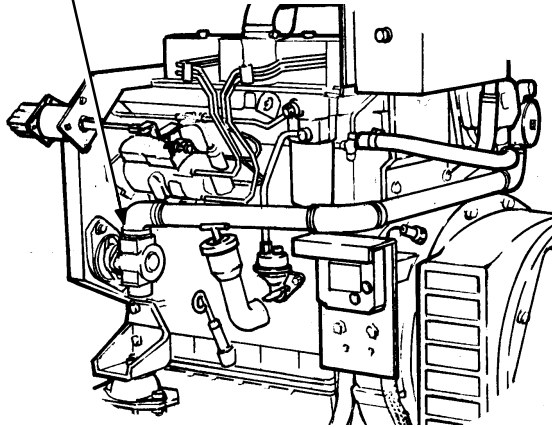

FIGURE 4-2. PRIMING THE SEA WATER PUMP
1. If the set is heat exchanger cooled, prime the sea water pump by disconnecting the pump outlet hose and pouring water into the pump outlet (Figure 4-2). Reconnect the hose and open the sea cock.